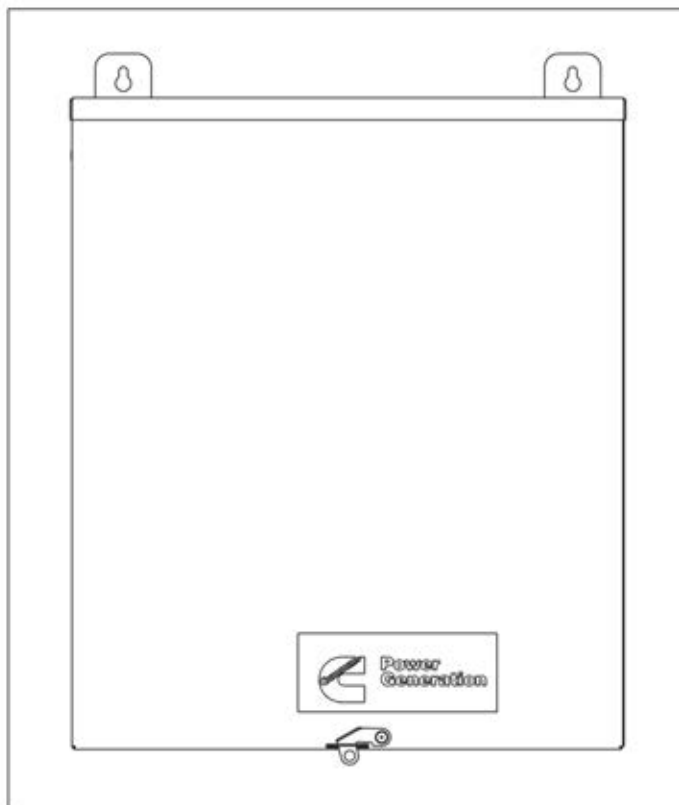

FIGURE 34. RA SERIES 100A/200A SERVICE ENTRANCE TRANSFER SWITCH MODEL
- Figure 34. RA Series 100A/200A Service Entrance Transfer Switch Model 66